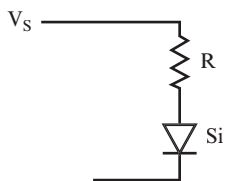

FIGURE 12.1
18. In the circuit shown in Figure 12.1, $V_s = 5 \text{ volts}$ and $R = 1 \text{ k}\Omega$. Find the current through the diode, I_D . _____
19. For the circuit shown in Figure 12.1, $V = 12 \text{ volts}$ and $R = 100 \text{ ohms}$. Find I_D . _____